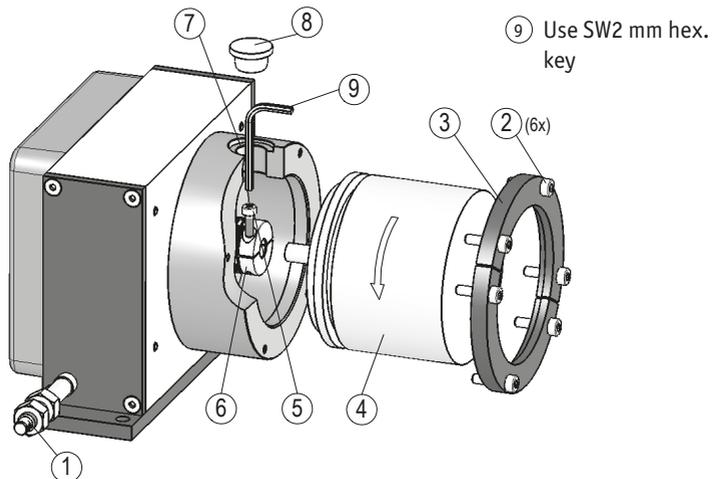

Fig. 4: Encoder mounting
The wire actuated unit is ready to be fitted to an incremental or absolute encoder (**Fig. 4**).
1. For adjusting the reference point loosen the screws ② (see Fig. 4) until the encoder can be turned.